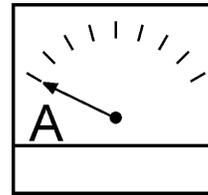

Figure 48. Ammeter (No Load)
9. The ammeter (Figure 48) will indicate **zero amps** with no load applied. When a load is applied, the ammeter will indicate the amount of current that the load is drawing from the generator.